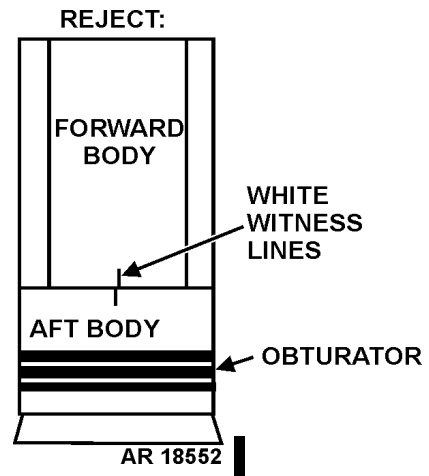

Figure 4-16. Unacceptable Cartridge for M1028.
b. If the white witness lines on forward body shift to left or right away from the white witness lines on the aft body or out of radial alignment as shown in figure 4-16, the cartridge shall be rejected and turned in.